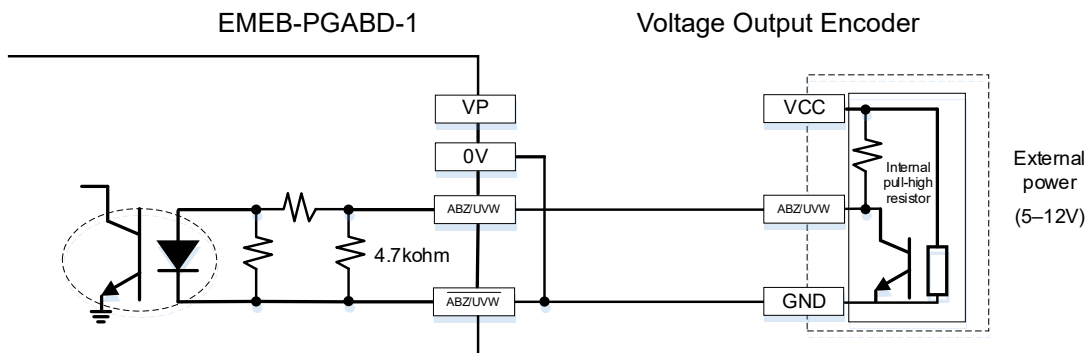

Figure 3-39
- Voltage output encoder application: Each set of input current is 5–15 mA. If input voltage uses 12V power, connect the encoder power externally. See the PG wiring Figure 3-39 below.